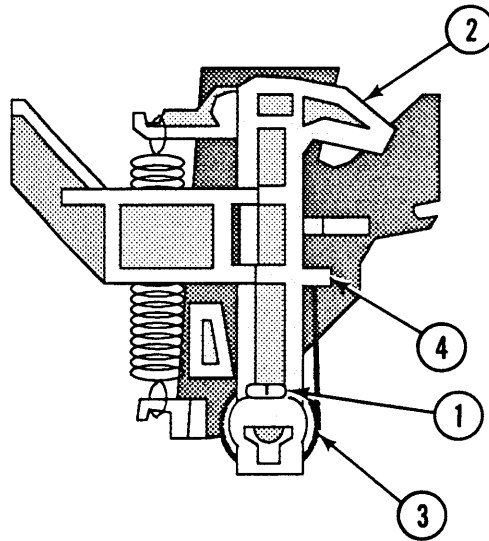

FIGURE 55
2. Remove the Phillips screw (Figure 55, #1) that secures the left hook (Figure 55, #2) to the hook shaft.
3. Slide the hook and torsion spring (Figure 55, #3) from the shaft to remove them.
1. Slide the hook onto the shaft and place the torsion spring behind the tab (Figure 55, #4) at the right side of the hook.